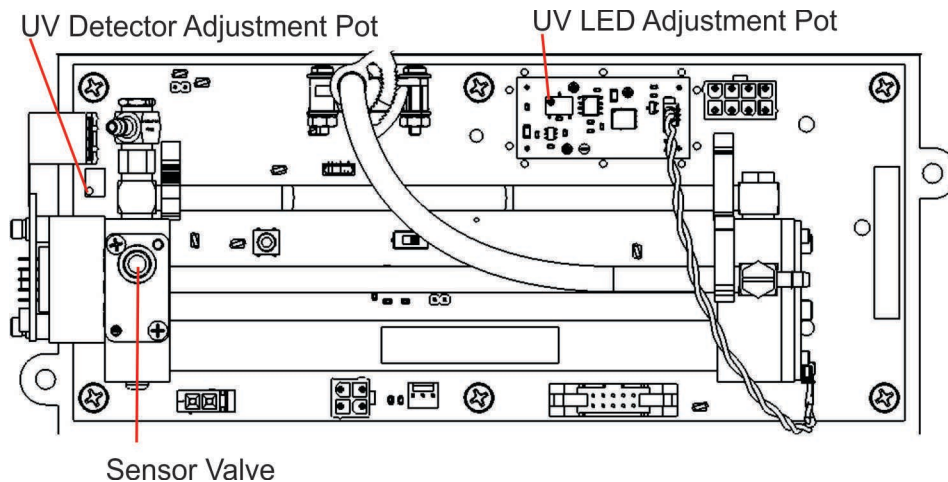

Figure 7-3. Sensor Valve Location
6. Remove the two (2) mounting screws using a #2 Phillips screwdriver. See Figure 7-3. Note that there are four screw heads visible on the top of the valve body, only two (2) of these should be removed.
4. Locate the UV Detector adjustment pot on the forward end of the sensor module (see Figure 7-3). While observing the REF value on the display, slowly turn the pot to adjust the value. The target adjustment range is as high as possible within the range of 800 – 1150 mV.
(Figure 7-3). Slowly turn the pot and observe the REF value on the display. The target adjustment range is as high as possible within the range of 800-1150 mV.